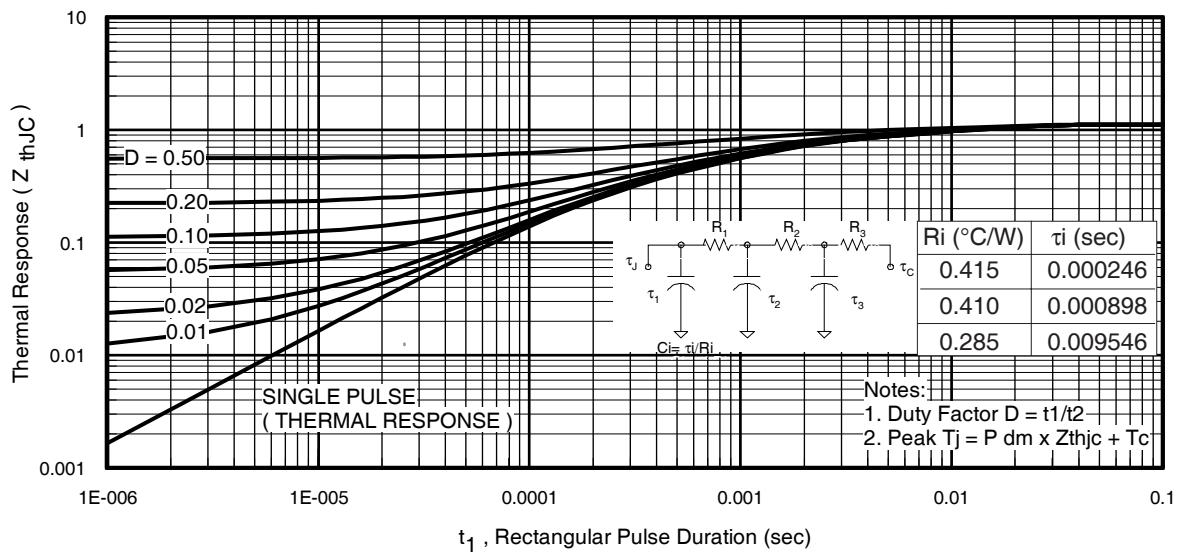
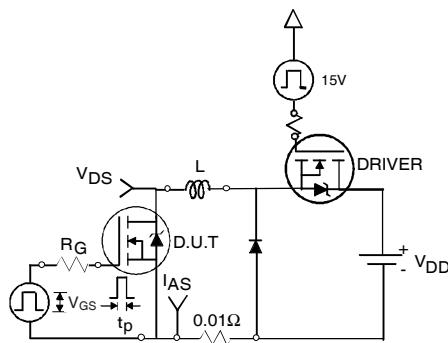

Fig 11. Maximum Effective Transient Thermal Impedance, Junction-to-Case
Fig 12a. Unclamped Inductive Test Circuit
- ① Repetitive rating; pulse width limited by max. junction temperature. (See fig. 11).
- ② Limited by $T_{J\text{max}}$, starting $T_J = 25^\circ\text{C}$, $L = 0.077\text{mH}$, $R_G = 25\Omega$, $I_{AS} = 51\text{A}$, $V_{GS} = 10V$. Part not recommended for use above this value.
- ③ $I_{SD} \leq 51\text{A}$, $di/dt \leq 260\text{A}/\mu\text{s}$, $V_{DD} \leq V_{(\text{BR})\text{DSS}}$, $T_J \leq 175^\circ\text{C}$.
- ④ Pulse width $\leq 1.0\text{ms}$; duty cycle $\leq 2\%$.
- ⑤ $C_{oss \text{ eff.}}$ is a fixed capacitance that gives the same charging time as C_{oss} while V_{DS} is rising from 0 to 80% V_{DSS} .
- ⑥ Limited by $T_{J\text{max}}$, see Fig.12a, 12b, 15, 16 for typical repetitive avalanche performance.
- ⑦ This value determined from sample failure population. 100% tested to this value in production.
- ⑧ This is applied to D²Pak, when mounted on 1" square PCB (FR-4 or G-10 Material). For recommended footprint and soldering techniques refer to application note #AN-994.
3. Equation below based on circuit and waveforms shown in Figures 12a, 12b.
- Z_{thJC}(D, t_{av}) = Transient thermal resistance, see figure 11)